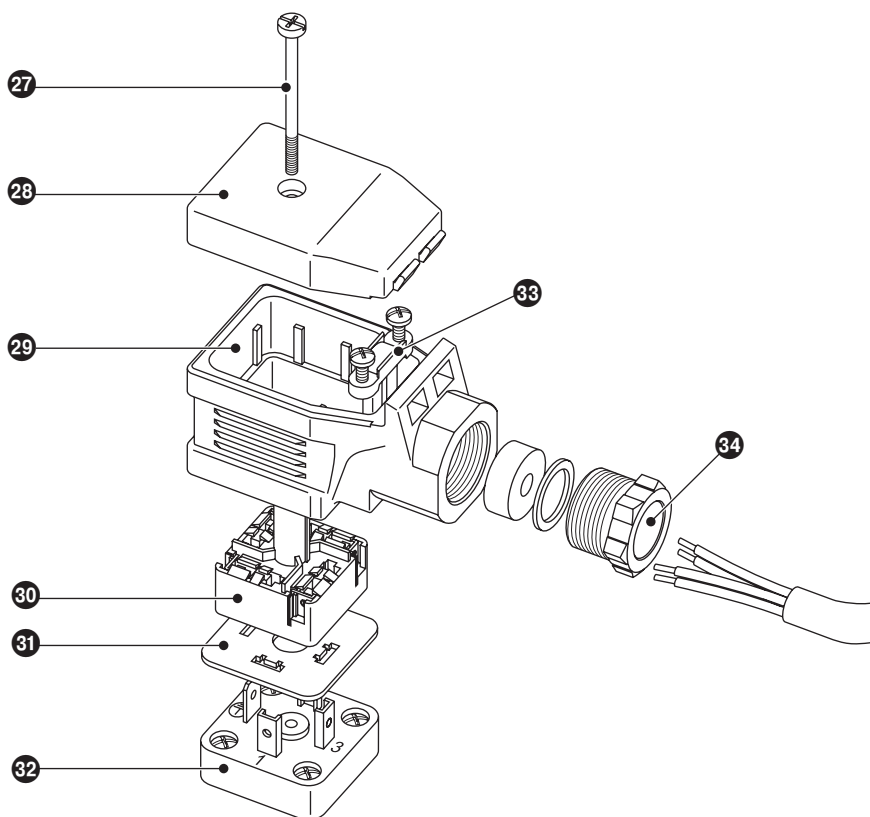

Fig. 15
1. Undo the screw **27**. **Fig. 15**
1. Undo the screw  **Fig. 15**